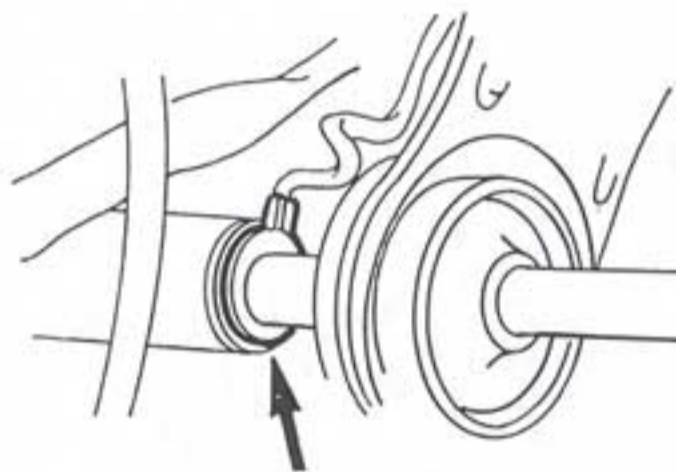

Fig. 2
- Check that spacers are correctly lined up and make sure to insert the eye ring of the ground lead between the spacer and cylinder head (R.H., fig 2).